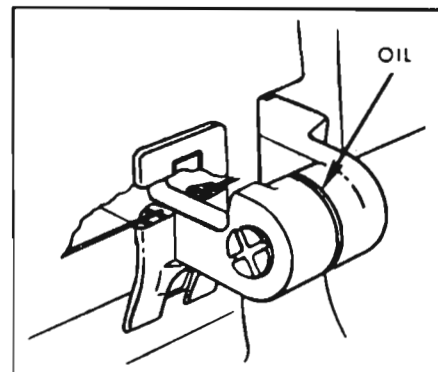

Figure 1-20—Tail Gate Hinge Lubrication
12. Tail Gate Hinges - Apply a sparing amount of dripless oil to frictional points of hinge. Work tail gate several times and remove excess lubricant. See Figure 1-20.